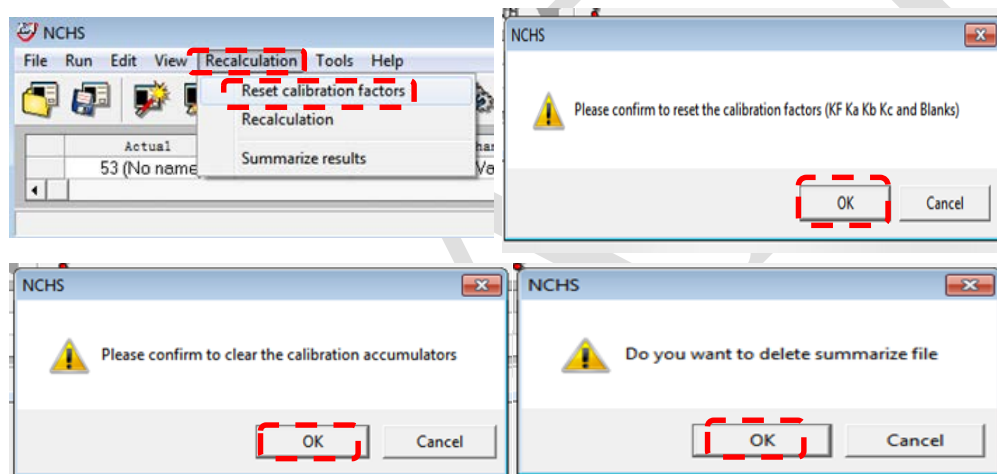

Fig.12 Reset calibration factors
3.2.2 Click **recalculation > reset calibration factors** to reset the blank value and clear the previous calibrations (fig.12).